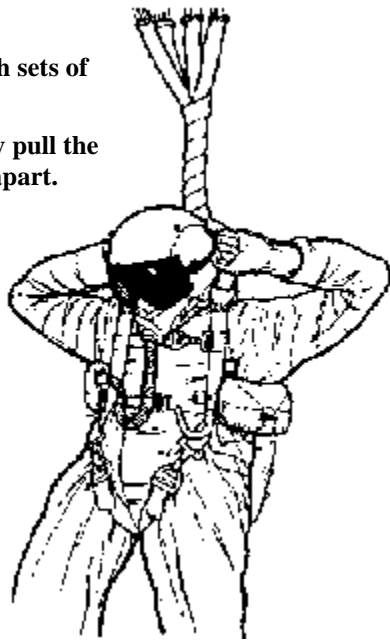

Figure 2-6 — Twisted Risers
5. Twisted risers and suspension lines. The parachute risers and suspension lines may often twist during opening. This problem may cause your head to be forced down to your chest and you may not be able to check your canopy. Riser twists are caused by poor body position during canopy deployment. Reach up and spread the risers with your hands to untwist the risers and lines. Another technique that some parachutists use to speed untwisting is bicycling their legs while spreading the risers. Figure 2-6 illustrates a twisted risers malfunction.